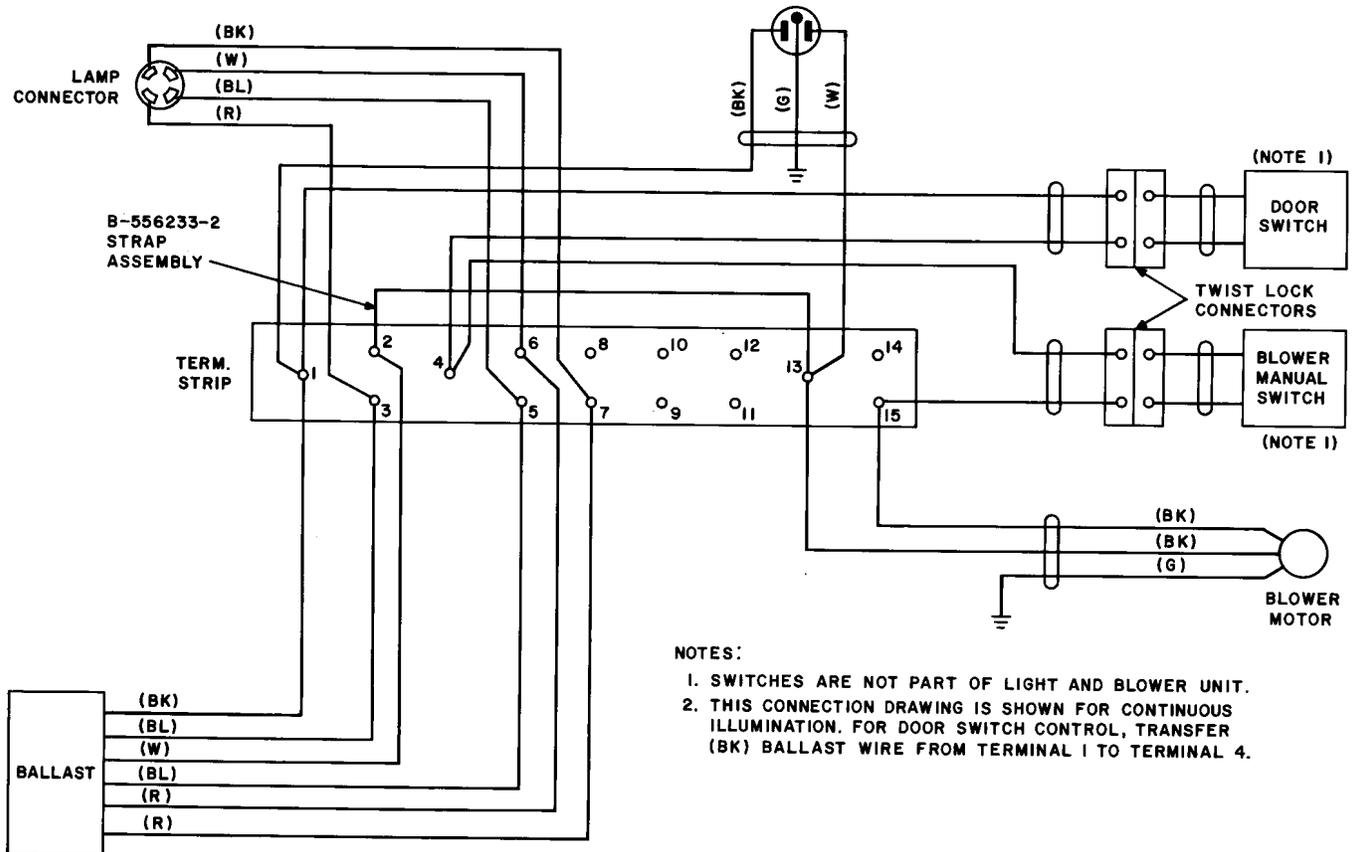

Fig. 2—Connections For List 1 Unit
(d) See Fig. 2 for List 1 unit connections.
4.02 Refer to Fig. 2, 3, 5, 7, and 8 for various connections if electrical failure should occur.